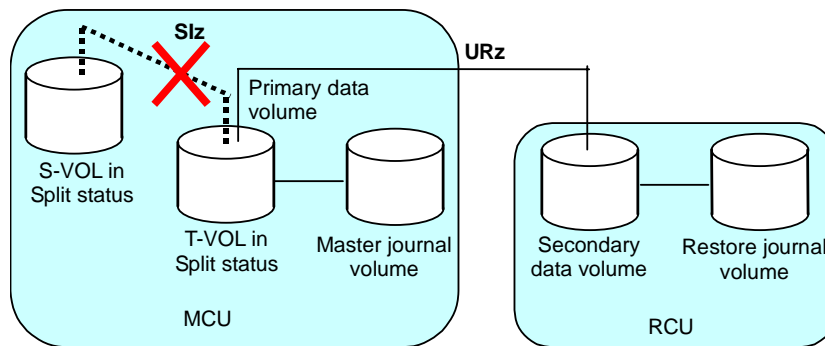

Figure 3-12 Restoring a Slz S-VOL - Step 1
1. Execute the Business Continuity Manager **YKDELETE** command on the SIz pair to release the pair (see Figure 3-12).